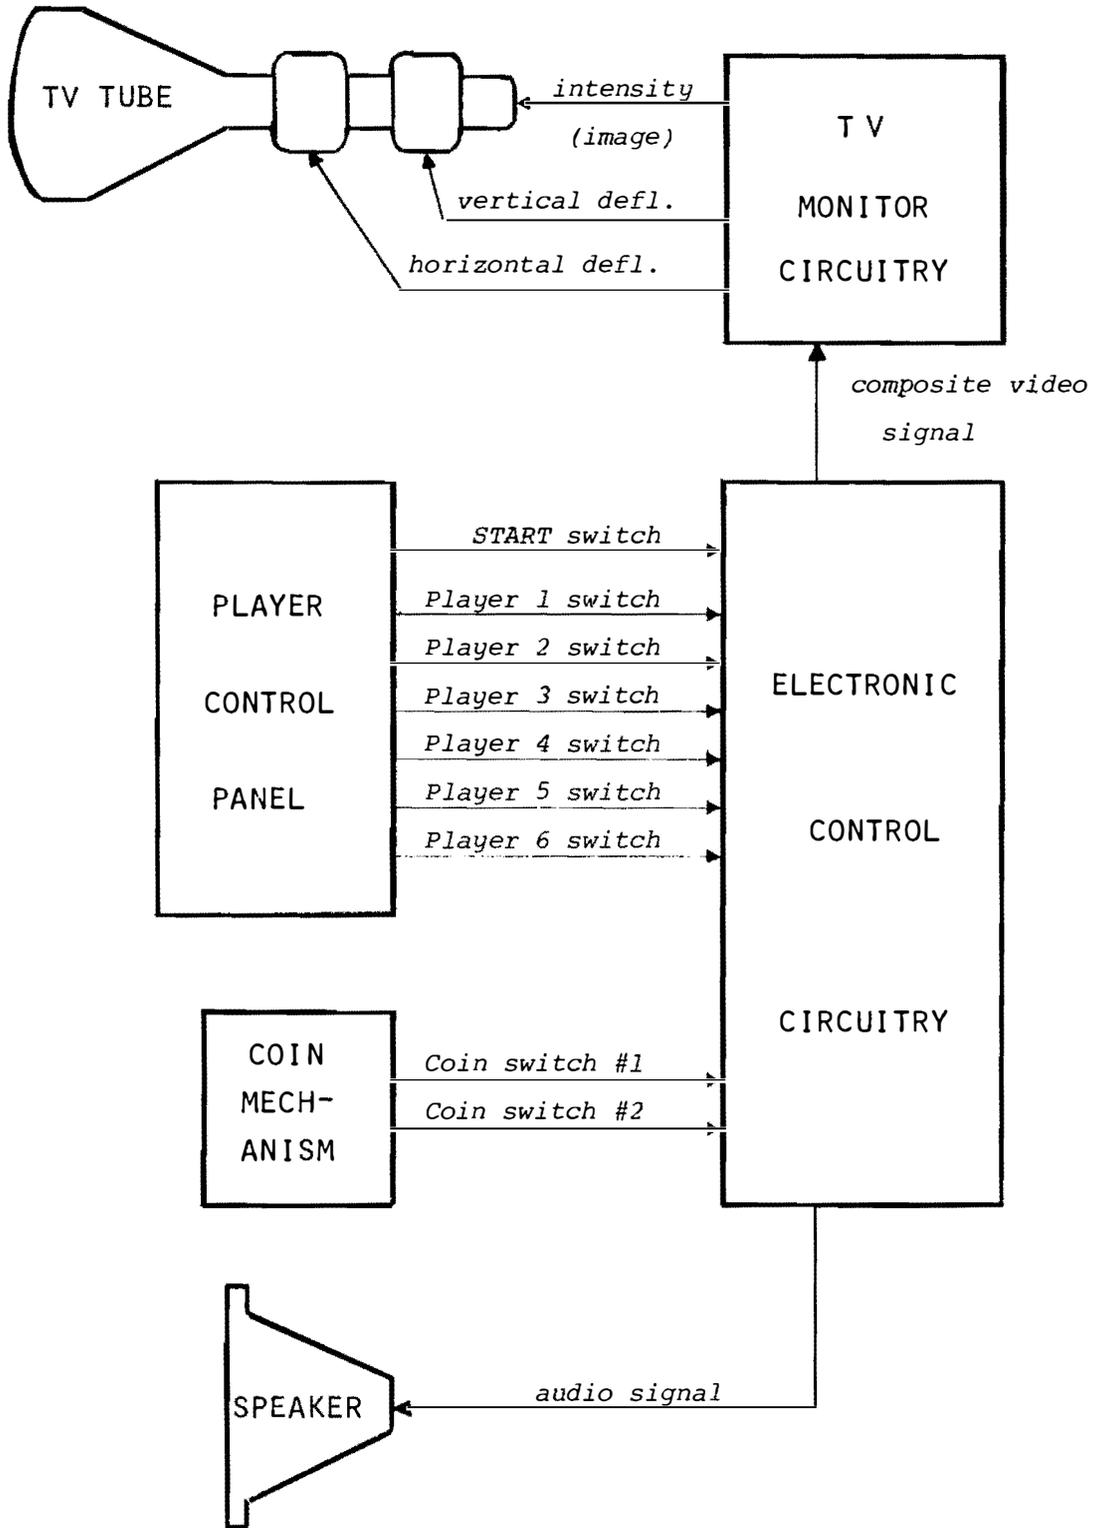

Figure 3-1 Simplified Block Diagram of Steeplechase Game
The simplified block diagram in Figure 3-1 shows the major functional parts of the Steeplechase game and how they are interconnected. Note that the speaker is separate from the TV monitor.
3.2.2 TV MONITOR: The TV Monitor is a self-contained transistorized television monitor supplied to ATARI by Motorola. Because the composite video signal supplied to the monitor by the game's electronic control circuitry differs in certain important respects from the signal derived from commercial TV broadcasts, the monitor does not produce any sound and the picture appearing on its screen is unlike that of a home TV set. The game's sound is produced by a speaker mounted separately from the monitor and driven directly by the game's electronic control circuitry. (The separate "audio" and composite video connections shown in Figure 3-1 point out this difference.)